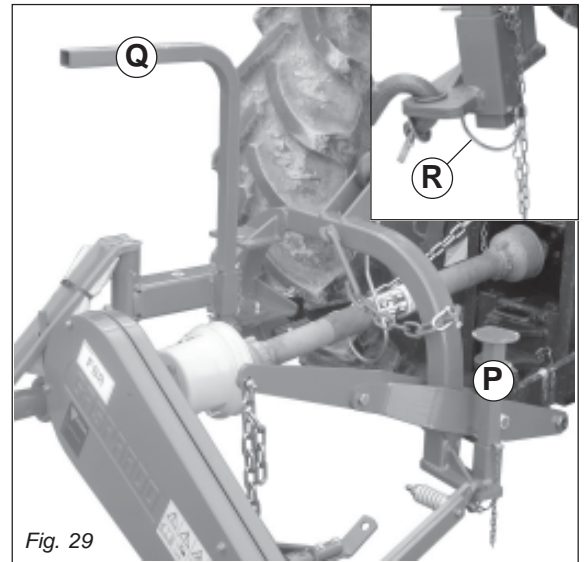

Fig. 29
- Remove the supports (P and Q, Fig. 29) and remount them, upside-down in their seat. Install spring locking pin in order to secure parking stand (R).